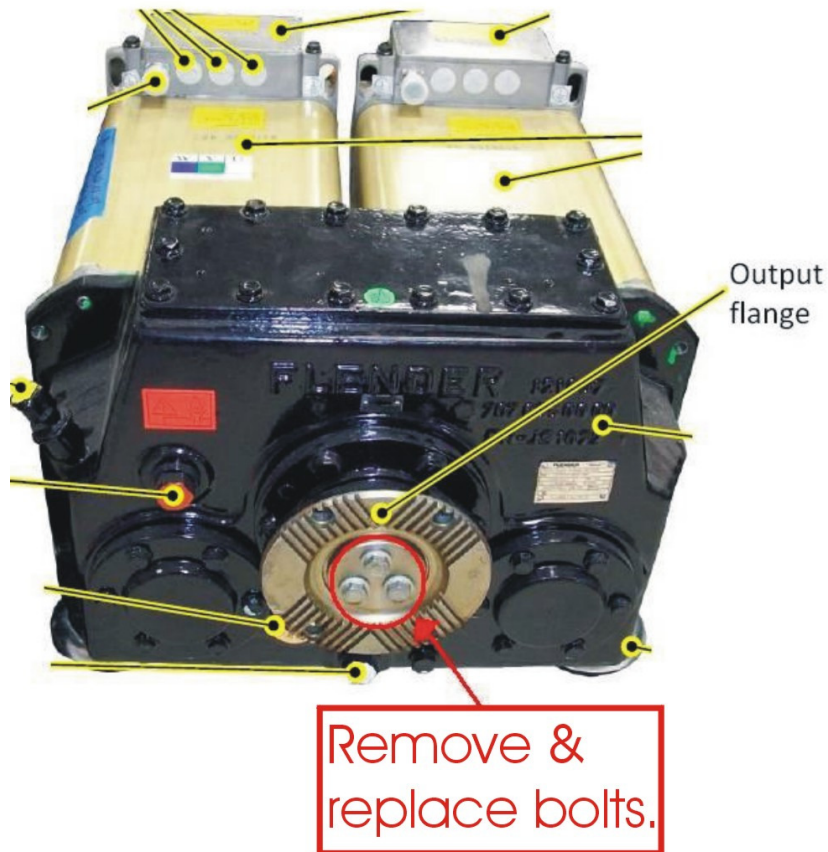

Figure 2:
4. Inspect hardware shown in Figure 2 for looseness and note results.
5. Remove hardware from gearbox flange as shown in Figure 2 and discard.